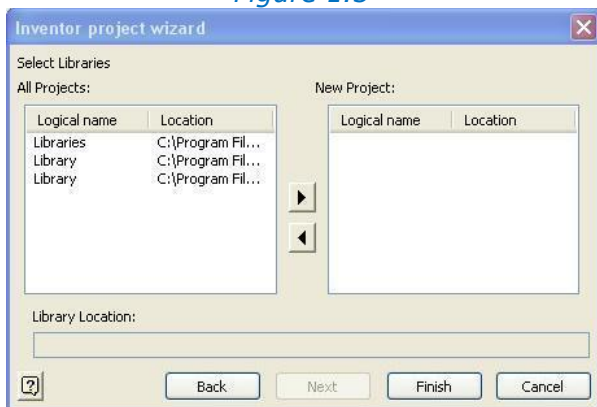

Figure 1.5
- Step 3 - Figure 1.5: Sets the location of the libraries to be used.